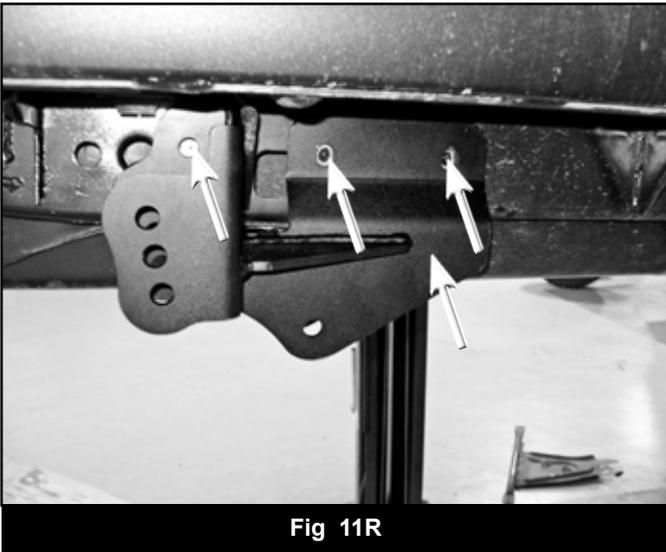

Fig 11R
23. Mark holes to drill (Fig 11R/12R). Use drill template at the end of this instruction sheet to locate the hole to be drilled through the front side of the body mount (Fig 14R – driver's side shown). Set the edge of the template up flush to the frame surface. *Note: The inside of this template hole can be marked from the bracket to double check your hole position once the pilot hole has been drilled.*